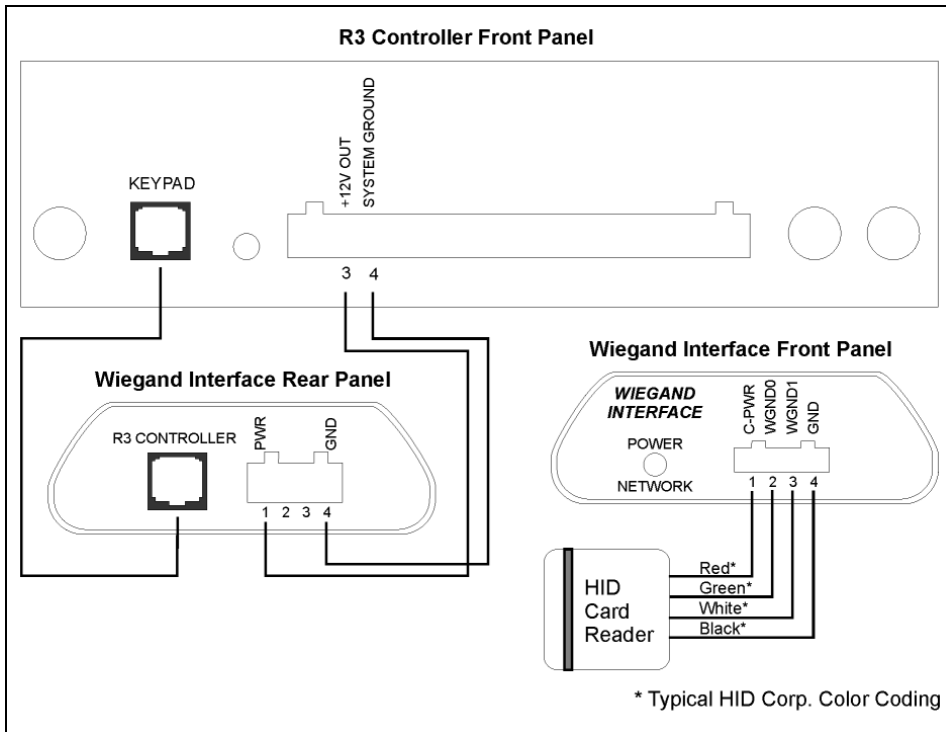

Figure 3-8: Wiegand Wiring Diagram (Card Reader Powered by Controller)
- 3 Refer to Figure 3-8 on page 3-20. If the card reader will be powered by the controller: